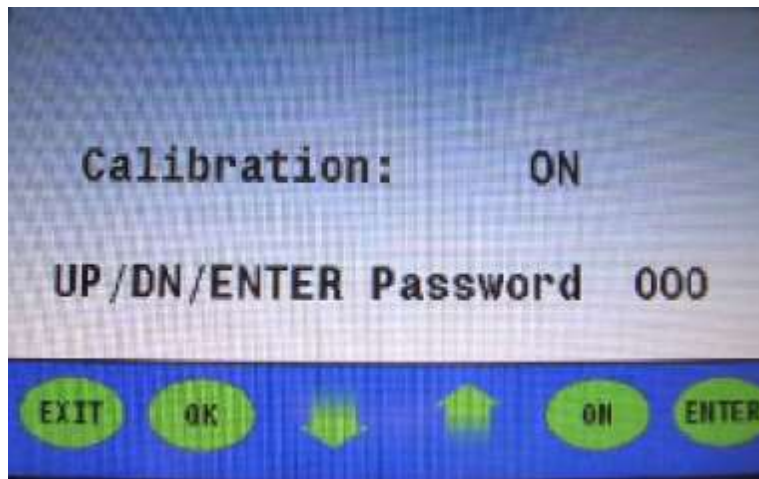

Figure 4
1. Press the **up** or **down arrow** once three [3] zeros [000] will appear on the right-hand side of "password" (**figure 4**).